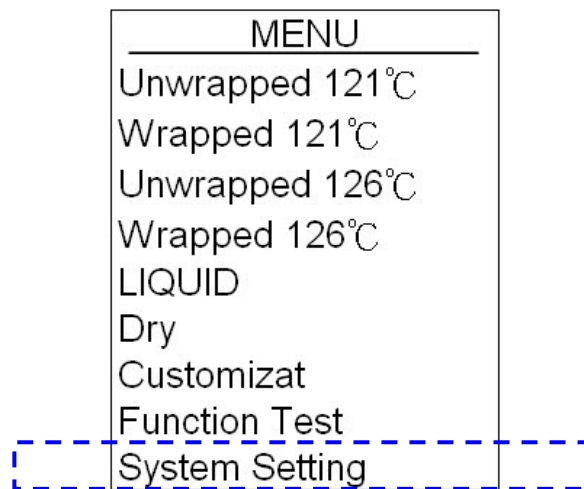
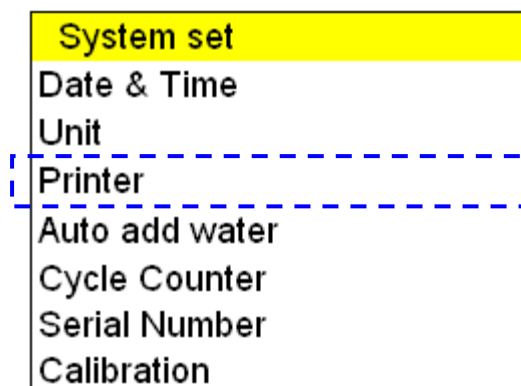

Figure 124
Figure 125
- A. Press  or  button to select System Setting program (Figure 124), and then press  button to select Printer setting, as shown in Figure 125.